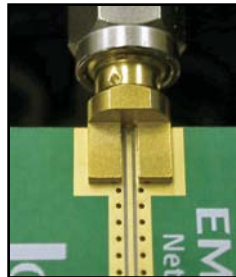
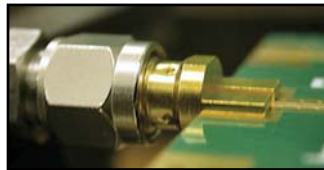

Figure 2
Figure 3
- Position connector on the circuit board, making sure the center contact pin is aligned with the center of the signal trace as shown in Figure 2. The connector legs and contact pin are held flush against the edge of the circuit board, keeping the axis of the connector parallel to the plane of the circuit board, as shown in Figure 3.